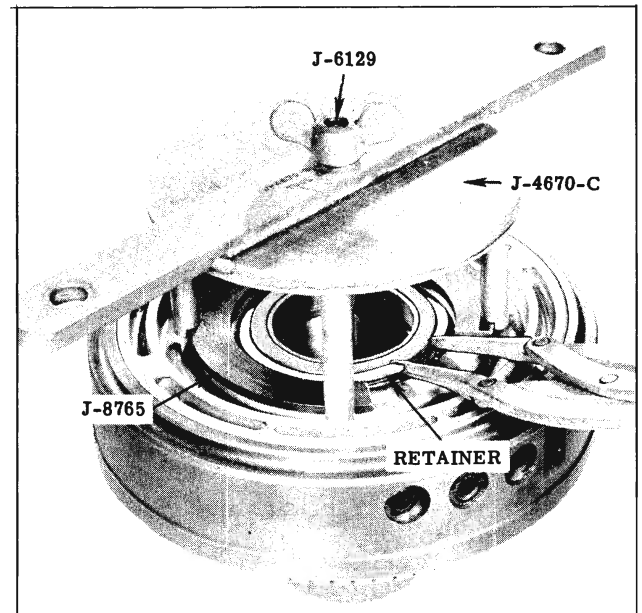

Fig. 3-60 Removing Neutral Clutch Retainer
7. Using Tools J-8765, J-6129, and J-4670-C, remove neutral clutch release spring retainer snap ring. (Fig. 3-60) Remove tools.
5. Using Tools J-8765, J-6129, and J-4670-C, compress neutral clutch release springs and install retainer snap ring. (Fig. 3-60) Remove tools.